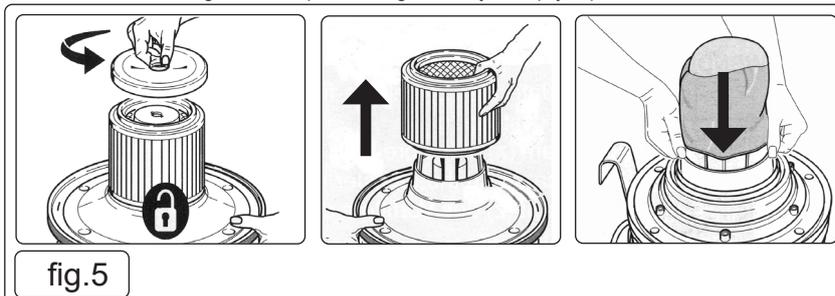

fig.5
- 8.2. Remove the cartridge filter and fit a foam filter (NOT suitable for Class M dust) over the filter basket. Replace the motor housing onto the container fig.5.